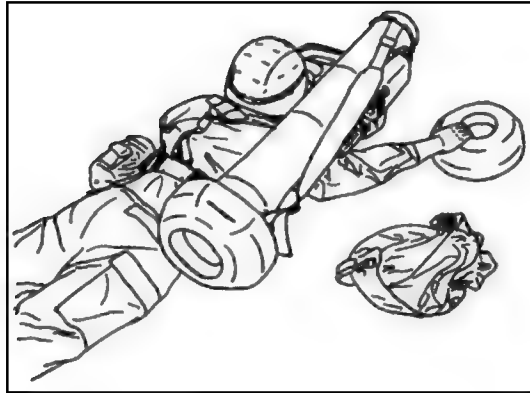

Figure 2-28. Reaching for forward end cap.
- (9) Place the forward end cap directly under the open end of the Javelin.
- (10) Open the NVS and daysight lens covers.
- (11) Check the backblast area. Ensure no personnel are located in the primary danger zone or caution areas.
- (12) Position the body so it is parallel with the Javelin with the left hand tightly on the left handgrip. Placing the left hand on left handgrip helps guide the Javelin and maintain control. The right shoulder should be just behind the shoulder pad to balance the weight.
- (13) The gunner tilts his body and the Javelin to the left side and, at the same time, reaches out with the right hand to secure the forward end cap (Figure 2-28).